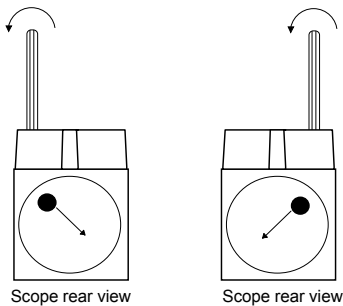

Figure 26. Adjusting the Scope
7. Adjust the scope use a 1.5 mm Allen wrench to turn the adjustment screws. Adjust the position of the scope aiming dot, as shown in Figure 26.